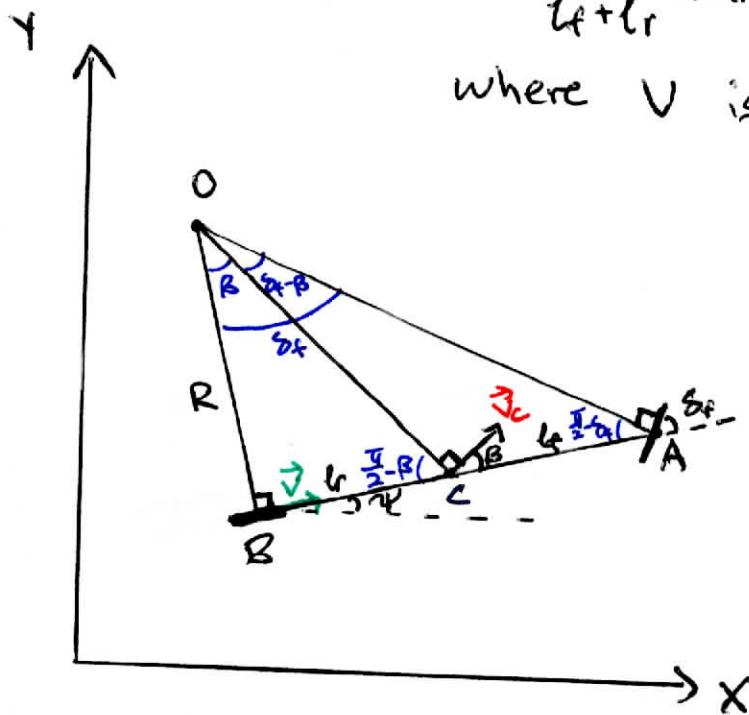

Fig 1: Kinematics of Pepy Model
Referring to Fig 1 with the positions measured relative to point B, we can obtain the angles in blue using basic trigonometry.
A. β no longer appears in the Pepp model because \vec{v} is defined at the rear wheel (point B in Fig 1). This does not mean $\beta = 0$.
For the vehicle velocity vector at the center of mass, we can define β relative to \vec{v}_c in Fig 1.
Vehicle slip is the difference between the velocity direction of a vehicle's center of mass and the direction the body of the vehicle is pointing. It is denoted by β in Figs 1 and 2. Tire slip is the difference between the direction a wheel is pointing and the direction the wheel's velocity vector is pointing. They differ as vehicle slip considers the vehicle's slip as a whole (i.e. at center of mass) whereas tire slip only considers slip at each tire.